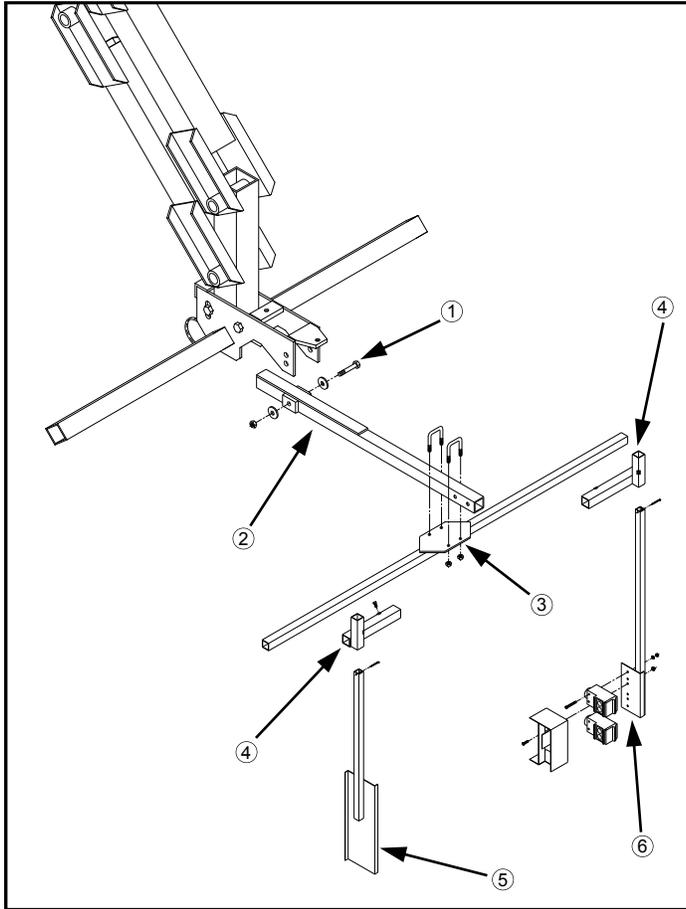

FIG 4.30
1. Install Tasselrol[®]/LS sensor arm weldment with the two nylon washers in the bottom hole in the tool bar (fig. 4.30, item 2).
2. Install the Tasselrol[®]/LS cross tube weldment (fig. 4.30, item 3) to the sensor arm.
3. Install the left and right slide mount weldments (fig. 4.30, item 4) to the cross tube weldment.
4. Install the Tasselrol[®]/LS reflector mount (fig. 4.30, item 5) and sensor mount (fig. 4.30, item 6) to the slide mount weldments.